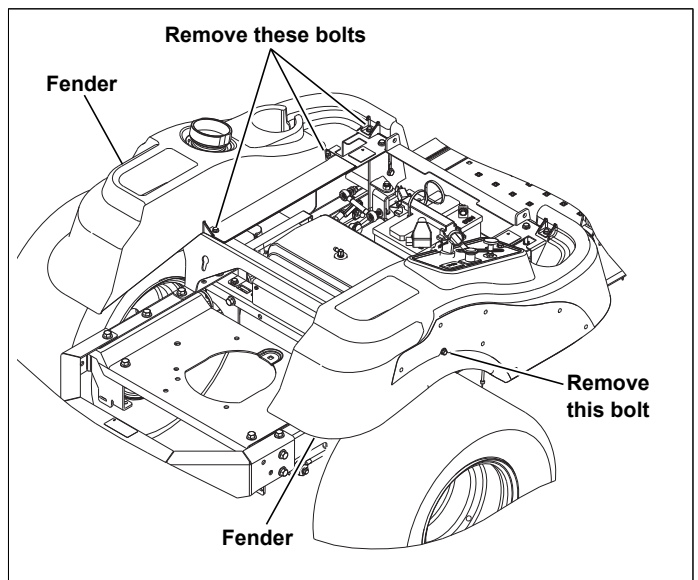

Figure 3-5
8. Unbolt the mower's fenders from the mower frame. There are four bolts per fender that will need to be removed. Figure 3-5
14. Re-attach the fenders to the mower frame. **Do not overtighten** the mounting hardware. Figure 3-5